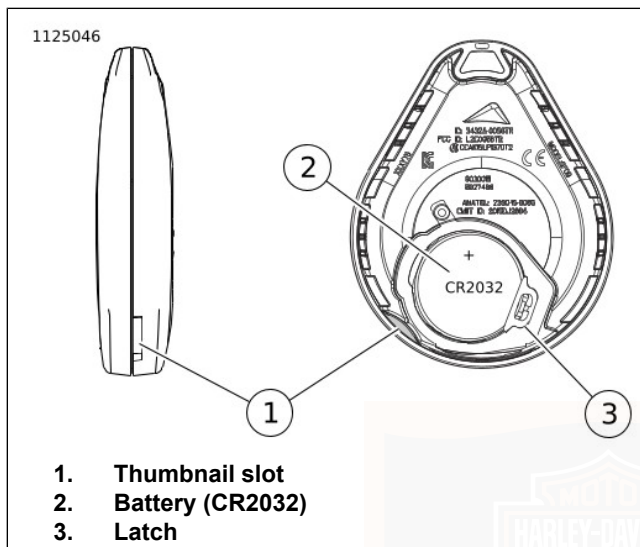

Figure 16. Replace Fob Battery
- See Figure 16. The serial number of the fob is also found on the inside of the fob.
1. See Figure 16. To open the fob, turn a thin blade in the slot (1).
2. Remove the battery (2) and discard in accordance with local regulations.